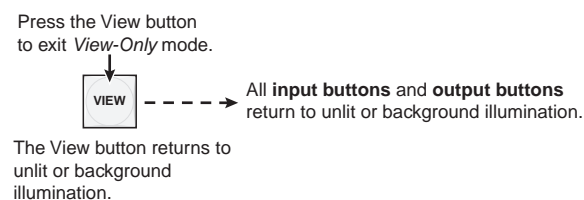

Figure 3-28 — Press the View button to exit View-Only mode
- Press and release the View button to exit *View-Only* mode (figure 3-28).